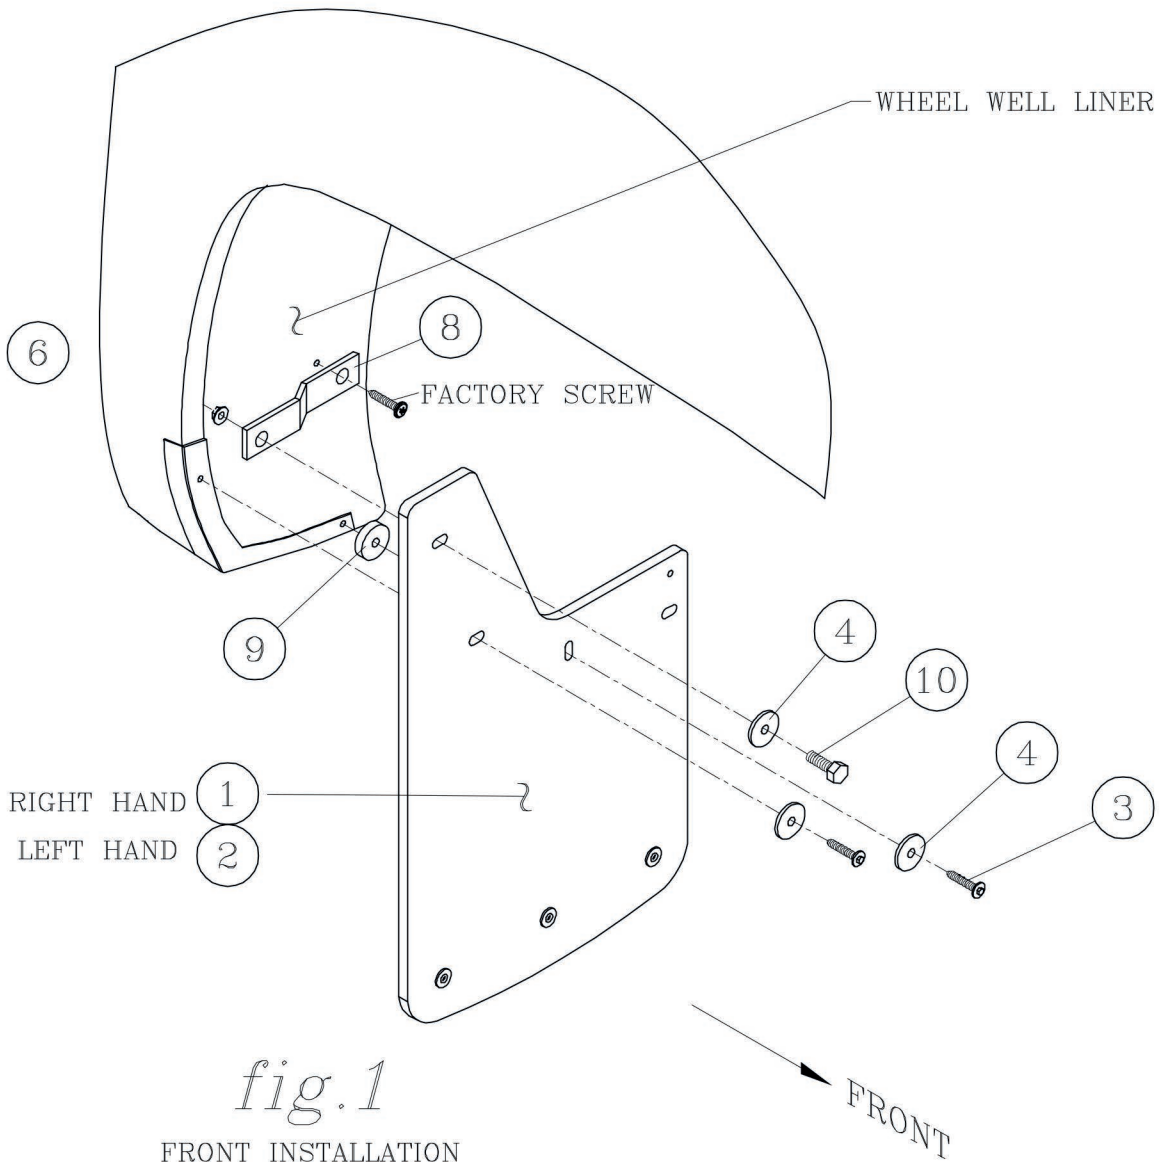

fig.1
- 2.1 USING A 1/4-20 X .75" BOLT, A BLACK FENDER WASHER, AND A 1/4-20 FLANGE NUT (ITEMS # 4, 6, 10) INSTALL THE SUPPORT BRACE (ITEM #8) TO THE MUD GUARD AS SHOWN IN FIG. 1.
- 2.3 POSITION THE SPLASH GUARD AGAINST THE WHEEL WELL FLANGE AND INSTALL A HEX HEAD SEMS SCREW, FENDER WASHER, AND SPACER WASHER (ITEMS #3, 4, 9) THRU THE INSIDE LOWER HOLE AS SHOWN IN FIG. 1., INSTALL A HEX HEAD SEMS SCREW AND A FENDER WASHER (ITEMS #3, 4) IN THE OUTER LOWER HOLE, AND TIGHTEN DOWN.
- 2.4 REMOVE THE FACTORY INNER FENDER LINER SCREW AND ATTACH THE SUPPORT BRACE USING THE FACTORY SCREW. (FIG 1.)